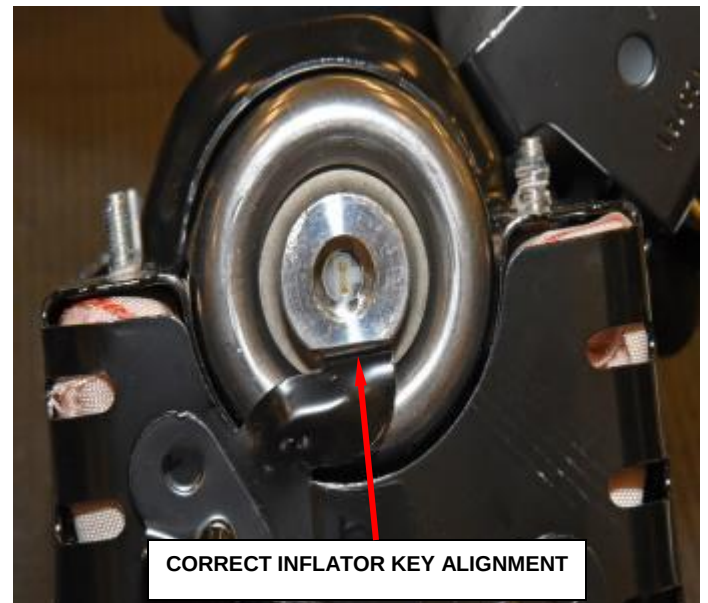

Figure 106 – Check for Inflator Key Alignment
- q. Ensure that the inflator's key is still lined up with the housing's key (Figure 106).